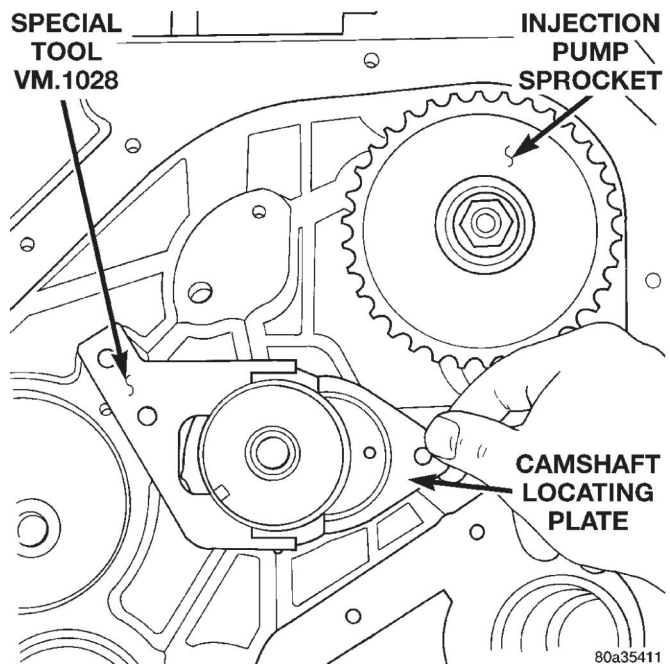

Fig. 51 Locating Plate Alignment
(1) Coat the camshaft journals with clean engine oil and carefully install the camshaft.
(2) Install camshaft locating plate alignment tool on block then install locating plate (Fig. 51).